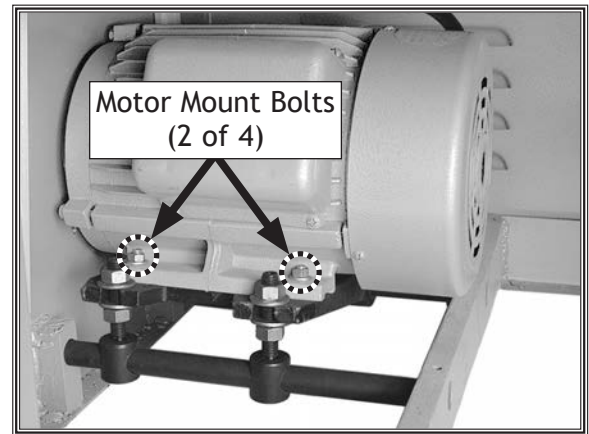

Figure 48. Location of motor mount bolts.
3. Loosen four motor mount bolts (see **Figure 48**), shift motor until pulleys are aligned, then re-tighten motor mount bolts.